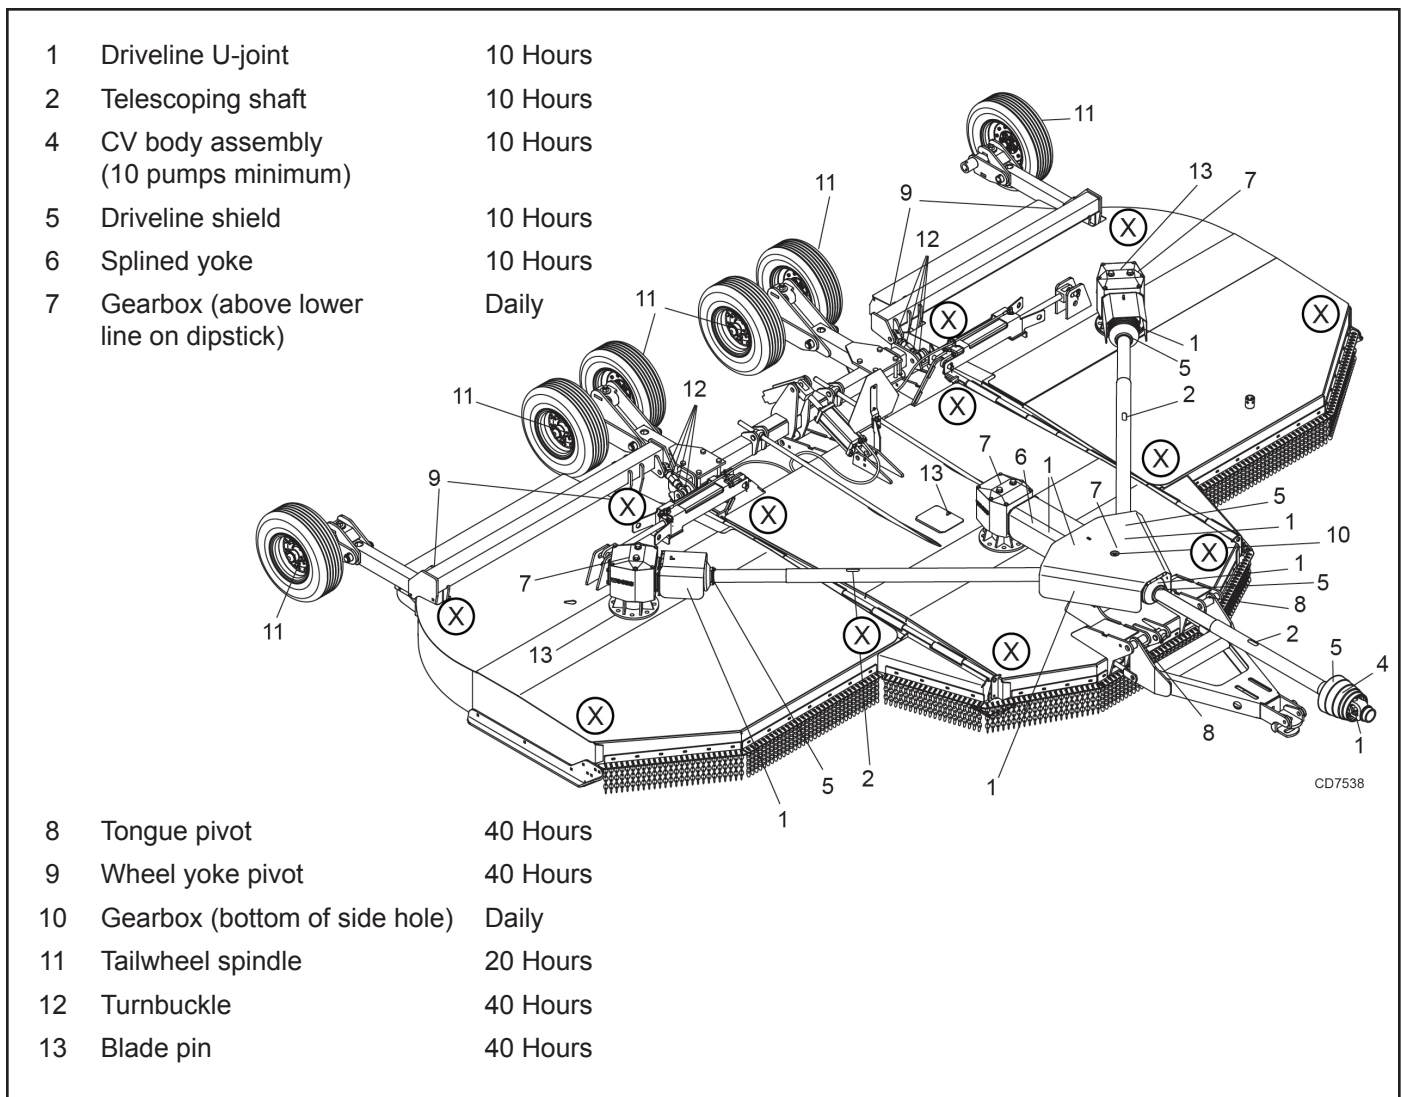

Figure 4. Jackstand Placement and Lubrication Points
1. Jackstands with a load rating of 1000 lbs. or more are the only approved blocking device for this cutter. Install jackstands (shown by Xs in Figure 4) under the cutter before working underneath unit.
See Figure 4 for lubrication points and frequency or lubrication based on normal operating conditions. Severe or unusual conditions may require more frequent lubrication.
2. Raise cutter and block securely (see Figure 4).
3. Align crossbar (8) with blade access hole in the cutter frame. Remove cap screw (50), blade pin lock clip (12, keyhole plate (11), and shims (9 & 10). Carefully drive blade pin (7) out of crossbar.